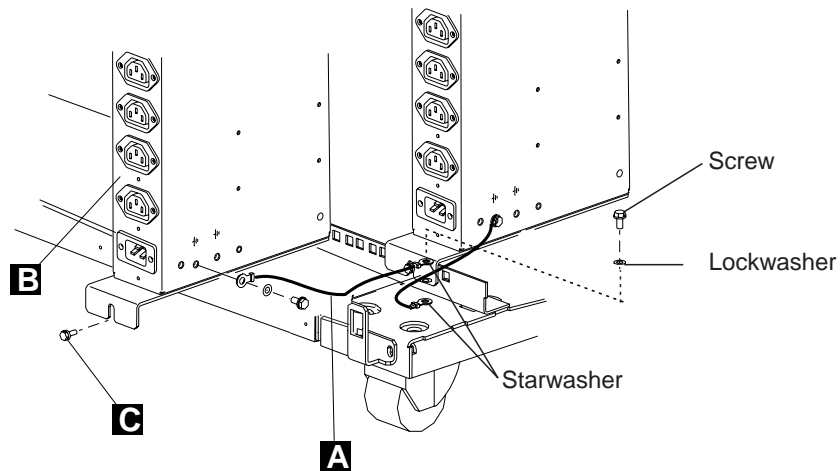

Figure 1-10. Installing the ac Outlet Distribution Box
- \_\_\_ 11. Refer to Figure 1-10, using one lockwasher (PN 1622319), one starwasher (PN 1622347), and one screw (PN1673983), **connect** the ground jumper **A** (PN 63F2459) to the new ac outlet distribution box.